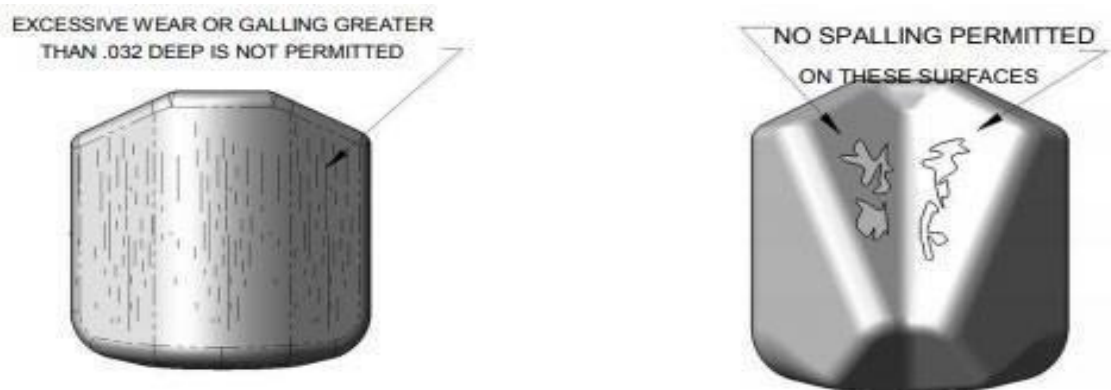

Figure No. 02
- Replace any shoes that have any of these conditions. Please see figure no. 02